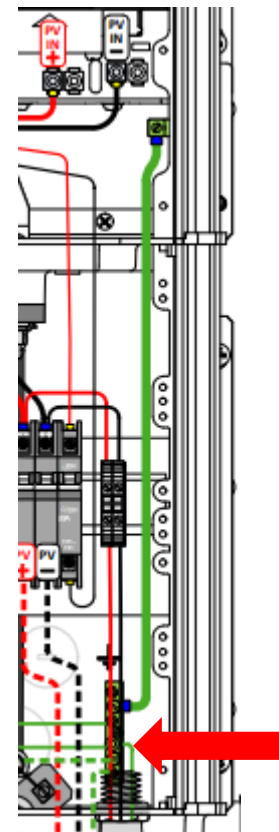

Figure 2
- **Figure 2** shows the Ground busbar in the Breaker Box.
**Arc Fault** - The NEC requires a PV system DC circuit operating at 80VDC or greater must be protected by an arc fault (AF) circuit interrupter.
**Ground Fault** - Since 2008 the NEC requires a DC Ground Fault (GF) Protection device on all PV systems to indicate when a GF condition exists.